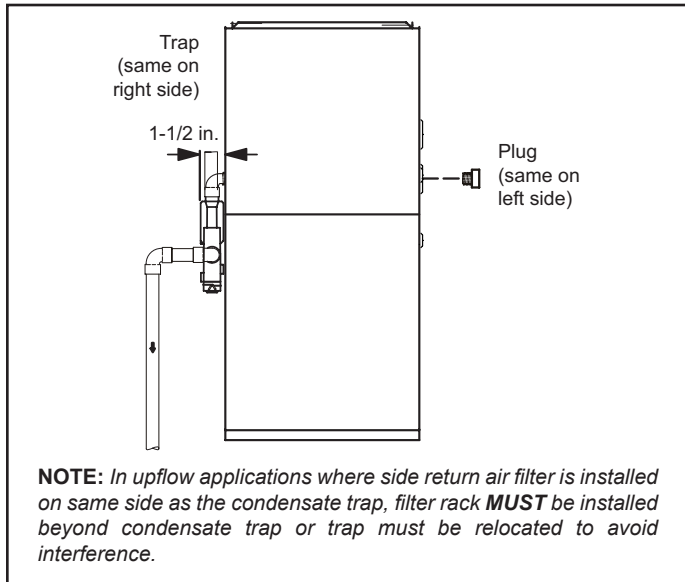

Figure 33. Condensate Trap and Plug Locations (Unit shown in upflow position)
This unit is designed for either right or left side exit of condensate piping in upflow applications. In horizontal applications, the condensate trap must extend below the unit. An 8" service clearance is required for the condensate trap. Refer to Figure 33 for condensate trap locations.
2. Use a 1/2" ratchet drive or flat blade screw driver and remove plug (Figure 33) from the cold end header box at the appropriate location on the side of the unit. Install field-provided 3/4 NPT male fitting into cold end header box. Use Teflon tape or appropriate pipe dope.